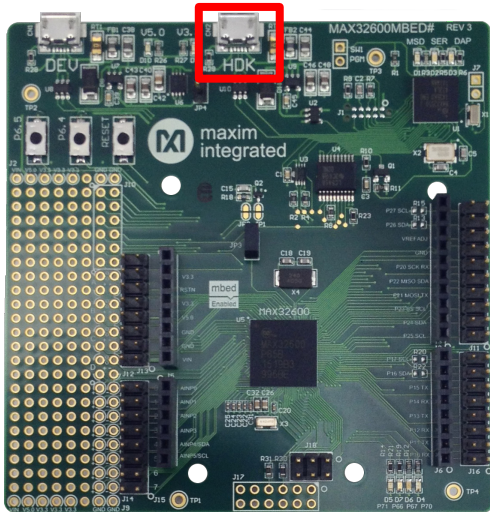

Figure 9. Connecting the MAX32600MBED to the computer through the HDK USB port.
4. Connect the MAX32600MBED to the computer through the HDK USB port for programming (Figure 9).